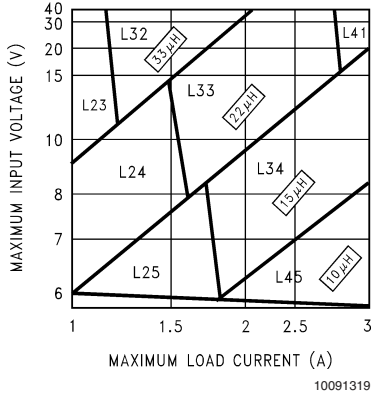
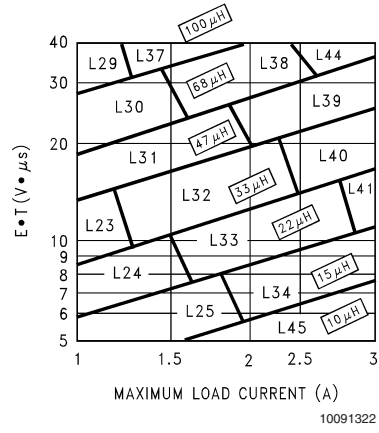

FIGURE 3. LM2673-3.3
FIGURE 6. LM2673-ADJ
Step 3: Determine the inductor required by using one of the four nomographs, *Figure 3* through *Figure 6*. Table 1 provides a specific manufacturer and part number for the inductor.
Step 5: Determine an input capacitor from Table 4 for fixed output voltage applications. Use Table 2 to find the specific capacitor type. For adjustable output circuits select a capacitor from Table 2 with a sufficient working voltage (WV) rating greater than $V_{in\ max}$, and an rms current rating greater than one-half the maximum load current (2 or more capacitors in parallel may be required).
Step 3: Use the nomograph for the 3.3V device, *Figure 3*. The intersection of the 16V horizontal line (V_{in max}) and the 2.5A vertical line (I_{load max}) indicates that L33, a 22μH inductor, is required.
Step 3: To use the nomograph for the adjustable device, *Figure 6*, requires a calculation of the inductor Volt•microsecond constant (E•T expressed in V•μS) from the following formula:
Using *Figure 6*, the intersection of 27V•μS horizontally and the 2A vertical line (I_{load} max) indicates that L38, a 68μH inductor, should be used.
Important Note: When using the adjustable device in low voltage applications (less than 3V output), if the nomograph, *Figure 6*, selects an inductance of 22μH or less, Table 6 does not provide an output capacitor solution. With these conditions the number of output capacitors required for stable operation becomes impractical. It is recommended to use either a 33μH or 47μH inductor and the output capacitors from Table 6.